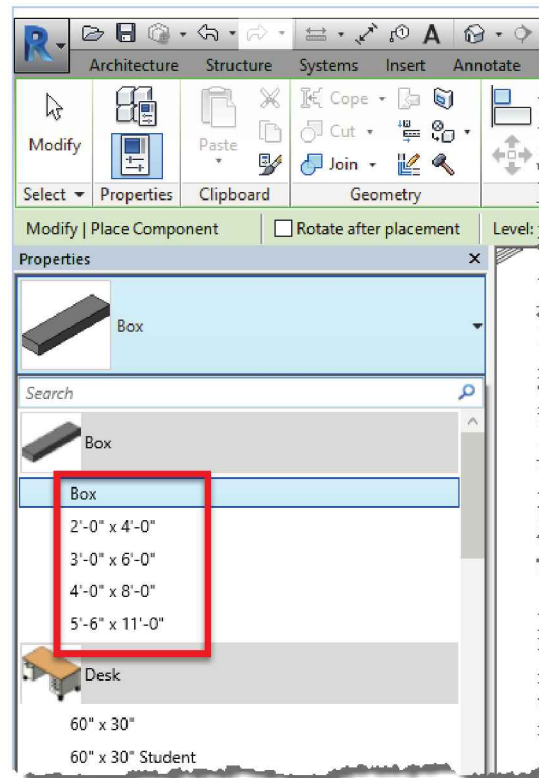

FIGURE 18-5.6 *Type Selector* in the project environment
15. Select the **Type Selector** (Figure 18-5.6).
Looking at Figure 18-5.6, notice all the *Types* created in the *Family Editor* are now available under the *Family* name **Box**. A *Type* named **Box** is also listed because the *Family* was previously loaded without any specific *Types* created, and as mentioned previously, when no *Types* exist Revit will create one with the same name as the *Family*. This can be deleted or renamed in the *Project Browser* within the *Families* section.